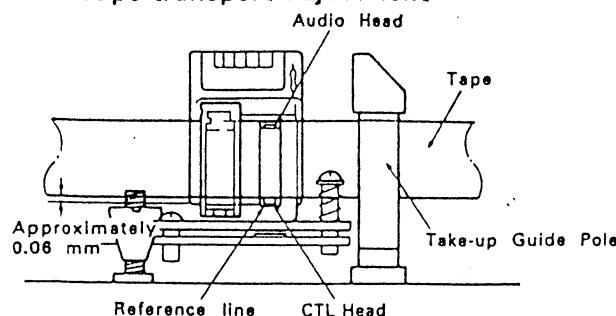

Fig.7 Audio/CTL Head adjustment
- Turn screw © (Fig.7-A) and adjust for smooth transport at the take-up guide pole.